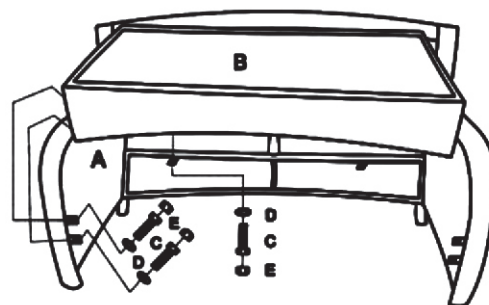

Figure 2
Step 2. With the help of another person, carefully place the seat (B) into the seat frame. Connect the seat to the seat frame with bolts (C), washers (D) by using open wrench (F), then cover the bolts with bolt covers (E) as shown in figure 2. (Figure 2&3)